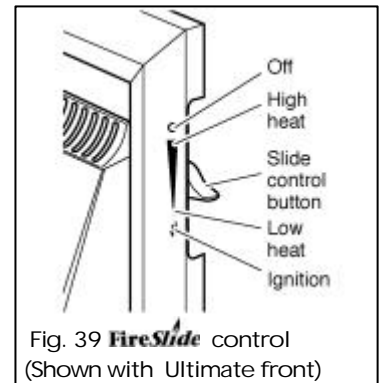

Fig. 39 **FireSlide** control
The control position markings on the front surround are shown in figure 39.
11.1.5 Gradually slide the button up to increase the burner setting. The burner should be at its maximum setting at the high heat position shown in figure 39. You should feel a check to the button movement at this position.